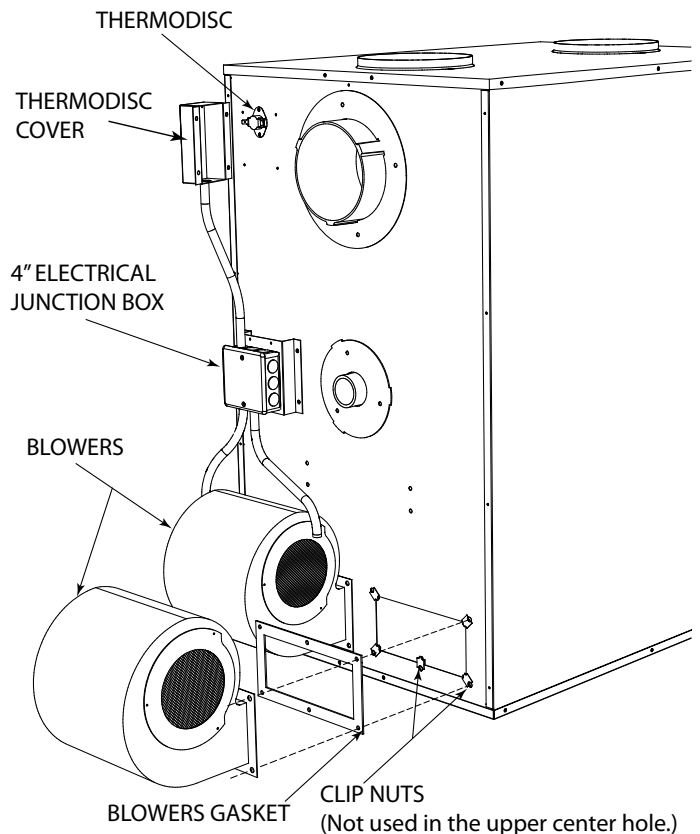

Figure 15
6. Remove blowers from cartons. Remove junction box cover. Attach clip nuts as in Figure 15. Install blower(s) and gasket(s) with 1/4"-20 x 3/4" bolts as shown.